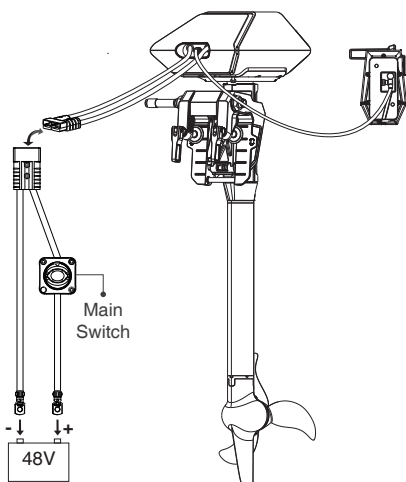
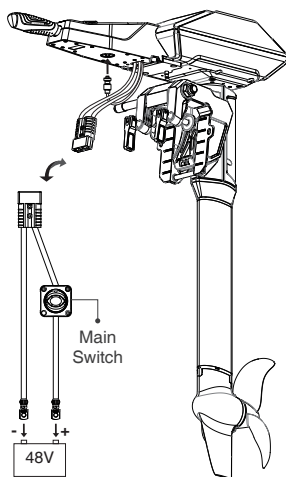

Figure 5-15
Figure 5-16
Step2: Connect NAVY outboard and Remote Control/Tiller with a communication cable. Please refer to Figure 5-15 or Figure 5-16.